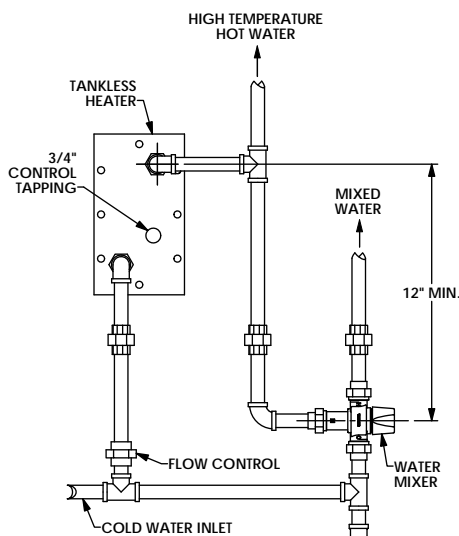

Figure 3.3: Tankless Coil Piping, Steam Boiler
1. If a tankless coil is used, install as pictured. On water boilers (item 16A), install in opening in front section. On steam boilers (item 16B), install in opening in rear section. For suggested piping of tankless water heaters refer to Figures 3.3 and 3.4.